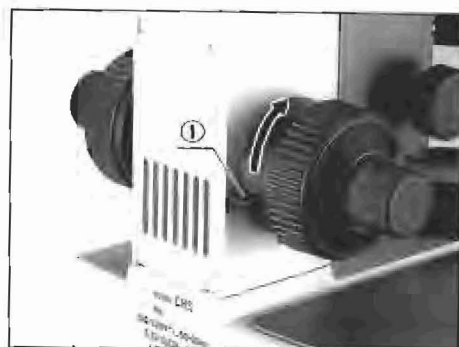

Fig. 26
This lever ① is provided to prevent possible contact between specimen and objective as well as to simplify coarse focusing. The lever is locked in the direction of the arrow in Fig. 26, after coarse focus has been accomplished. This is convenient for liquid application or change of specimens, too, since it prevents further upward travel of the stage by means of the coarse adjustment knobs, and provides a limiting stop if the stage is lowered and then raised again. The pre-focusing lever does not restrict fine focusing.